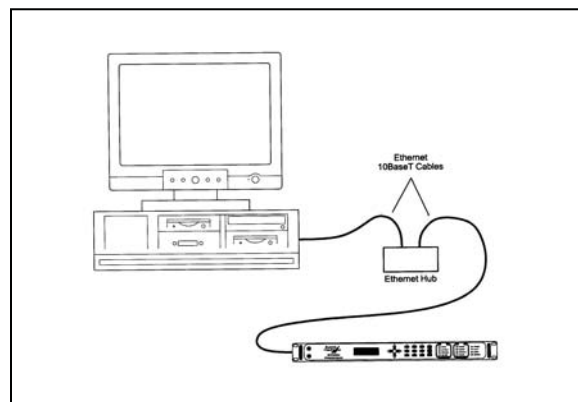

Figure D-1. Ethernet Connection
7. Turn on the unit. The unit is now ready to connect to the computer. Connect the RJ45 cable from the DMD1050 to the computer/router/bridge as illustrated in Figure D-1.